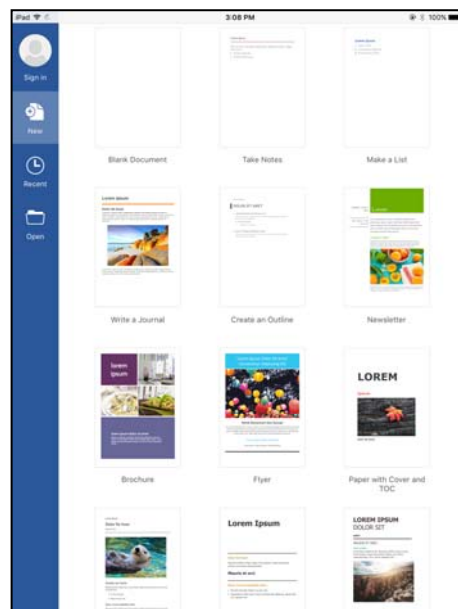

Figure 38
2.2 Open the document which is to be printed, as shown in Figure 38.